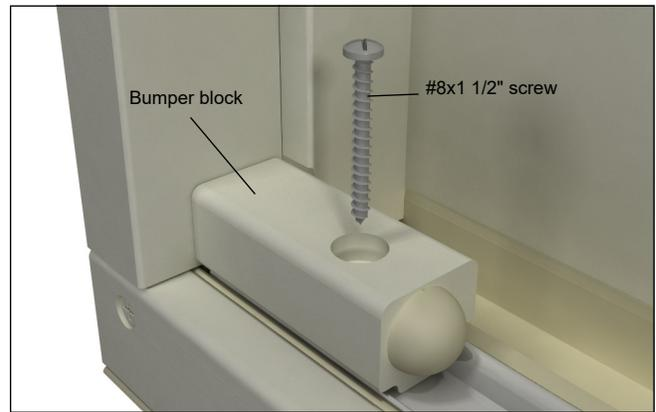

Figure 6
7. Replace the existing bumper block with the Auxiliary Foot Bolt Bumper Block included with the kit. Fasten with a #8 x 1 1/2" screw provided. See figure 6.